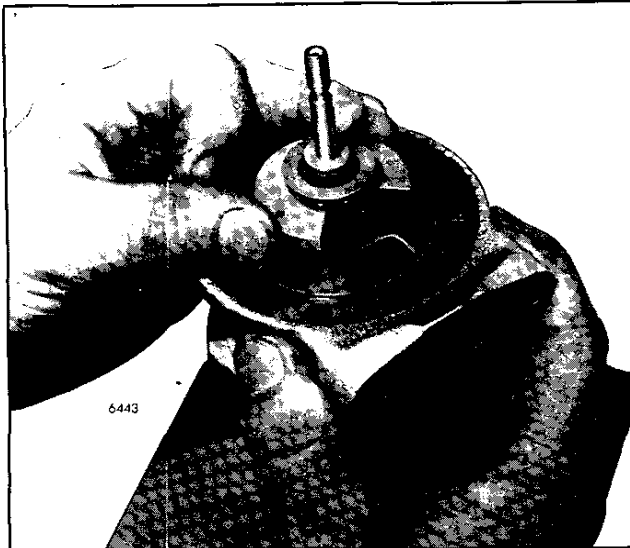

Fig. 20 - Installing Thrust Collar and Thrust Bearing into Center Housing
7. Lubricate the thrust collar and thrust bearing with clean engine oil and install the thrust collar on the shaft of the turbine wheel assembly. Then, install the thrust bearing in the groove of the collar and slide the assembled parts down against the center housing so that the pins engage the holes in the thrust bearing (Fig. 20).